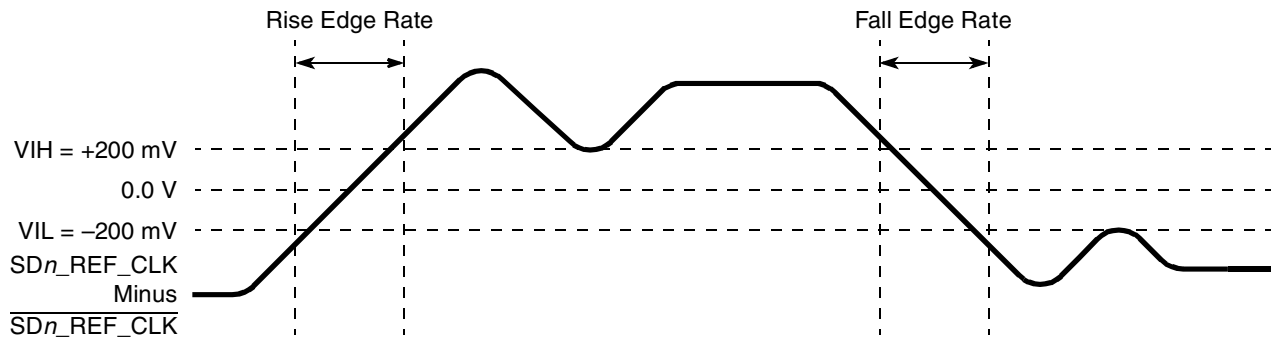

Figure 57. Differential Measurement Points for Rise and Fall Time
The differential waveform is constructed by subtracting the inverting signal ($\overline{SDn_TX}$, for example) from the non-inverting signal (SDn_TX , for example) within a differential pair. There is only one signal trace curve in a differential waveform. The voltage represented in the differential waveform is not referenced to ground. Refer to Figure 57 as an example for differential waveform.
3. Measured from -200 mV to +200 mV on the differential waveform (derived from SDn_REF_CLK minus SDn_REF_CLK). The signal must be monotonic through the measurement region for rise and fall time. The 400 mV measurement window is centered on the differential zero crossing. See Figure 57.